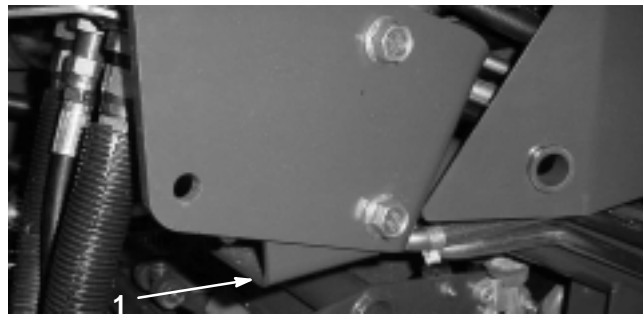

Figure 41
- Right side—under the ROPS support bracket (Fig. 41)